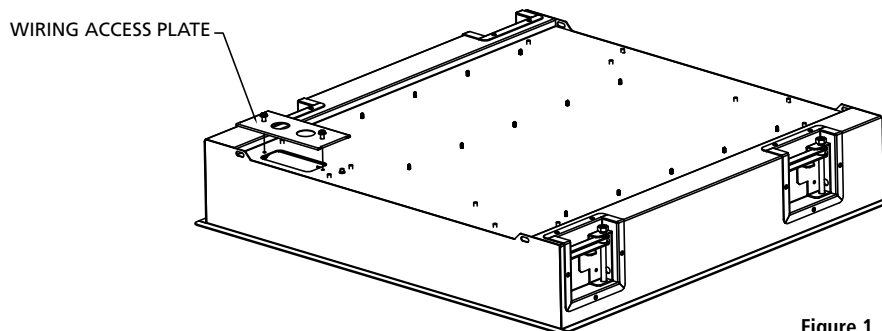

Figure 1
2. Remove wiring access plate from top of fixture using 1/4" nut driver or flat bladed screwdriver. See Figure 1.